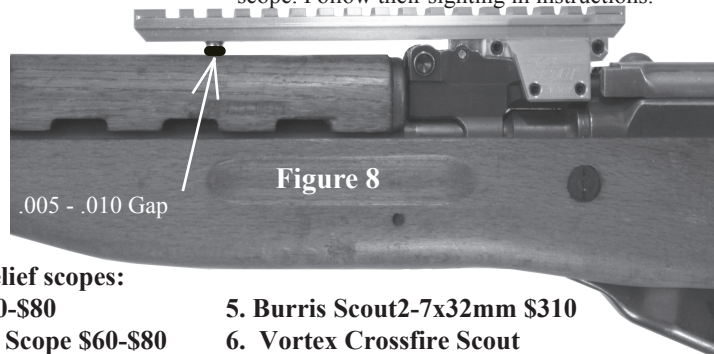

Figure 8
- 8.1 You will want to adjust the rubber bump guard to have minimal (.005-.010 or about the thickness of the front or back printed cards in the packaging) clearance but not touching - the closer the better. The best method we have found is to use a stationary belt sander (120-180 grit) or a bench grinder (fine stone) to remove a little rubber at a time. A razor knife can also be used. In the rare event that the gas tube cover has a lower profile than normal, you may have to shim the bumper with washers (plastic preferred) to make up the gap. (See figure 8).